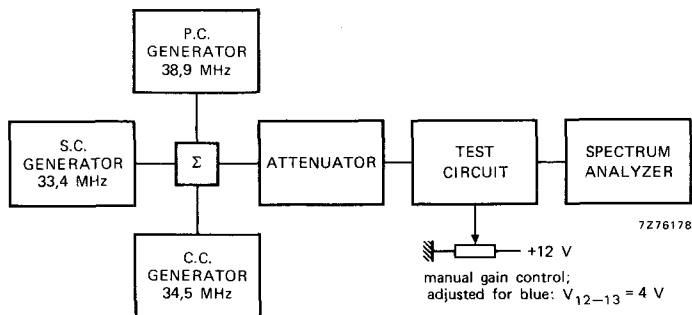

Fig. 7 Test set-up for intermodulation measurements.
6. Measured in the circuit of Fig. 7: